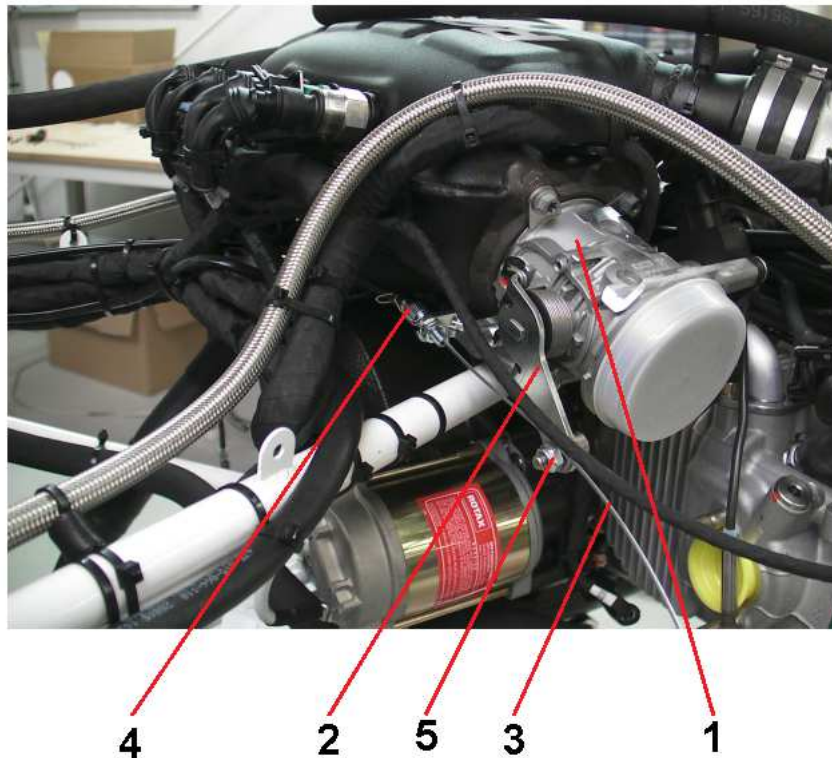

Fig. 10-14
- (i) Connect throttle control cable (3) to the throttle lever (2) on throttle valve (1) - see Fig. 10-14. Adjust the throttle control (see 10.4.2).